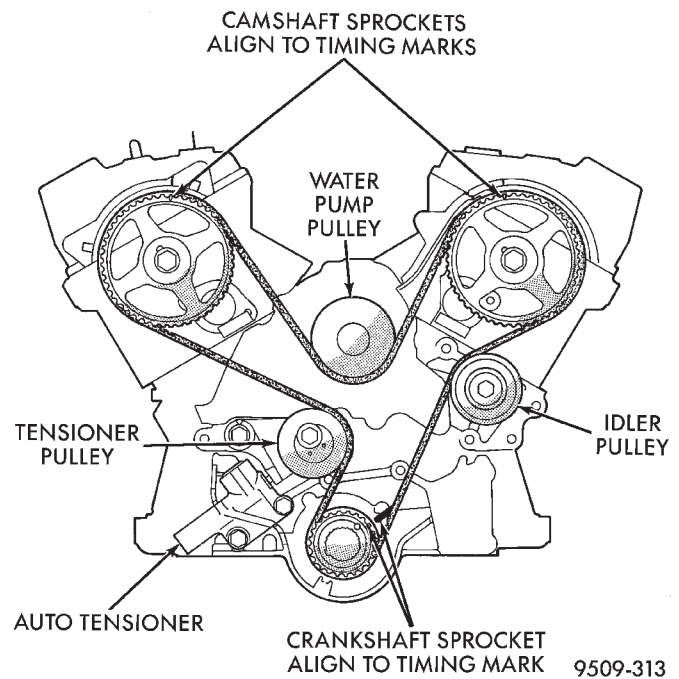

Fig. 53 Timing Belt Engine Sprocket Timing
(2) Loosen timing belt auto tensioner bolts (Fig. 53) and remove timing belt.
- (8) Pull tensioner plunger pin.
- (9) Rotate crankshaft 2 revolutions in a clockwise direction ONLY and check the alignment of the timing marks (Fig. 53). Install tensioner pin into assembly. The pin should slide in and out without any resistance. If the pin does not slide freely, perform the procedure again.